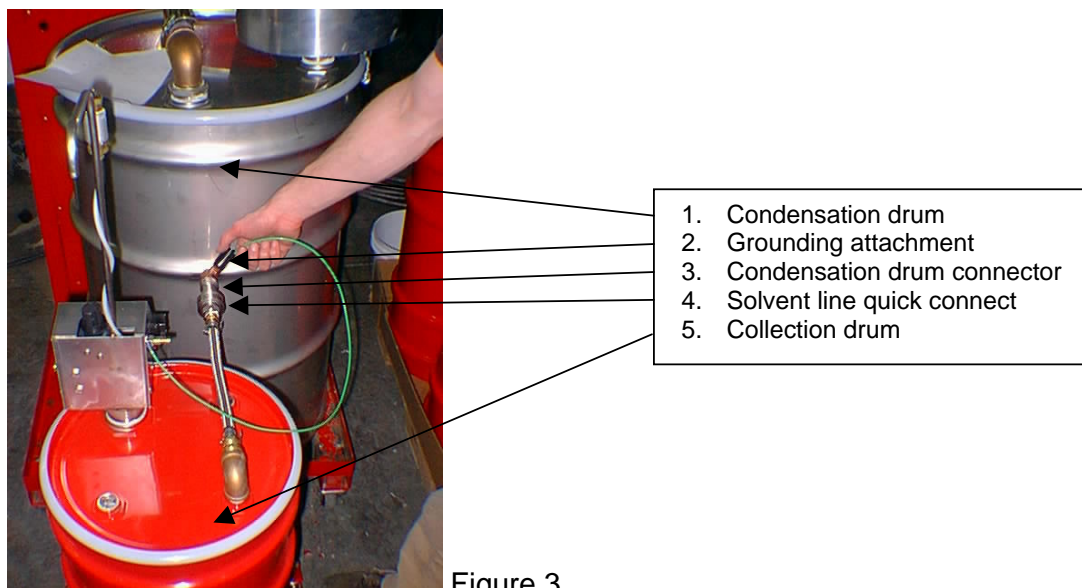

Figure 3
6. **ATTACHING COLLECTION DRUM:** The collection vessel is a fully mobile unit complete with its own pump and grounding attachment. The collection vessel must be connected to the condensation drum via the solvent line quick-connect and the grounding clamp attached to the condensation drum connector prior to each cycle (see figure 3).
10. Ensure collection drum is empty and properly connected to the condensation drum (see figure 3).